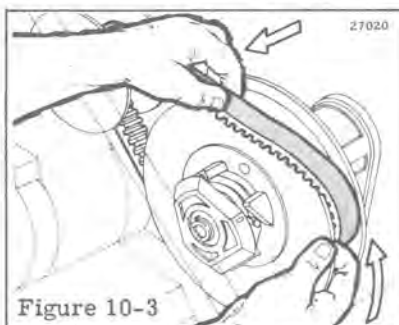

Figure 10-3
- Work belt over top of sheave, Figure 10-3.